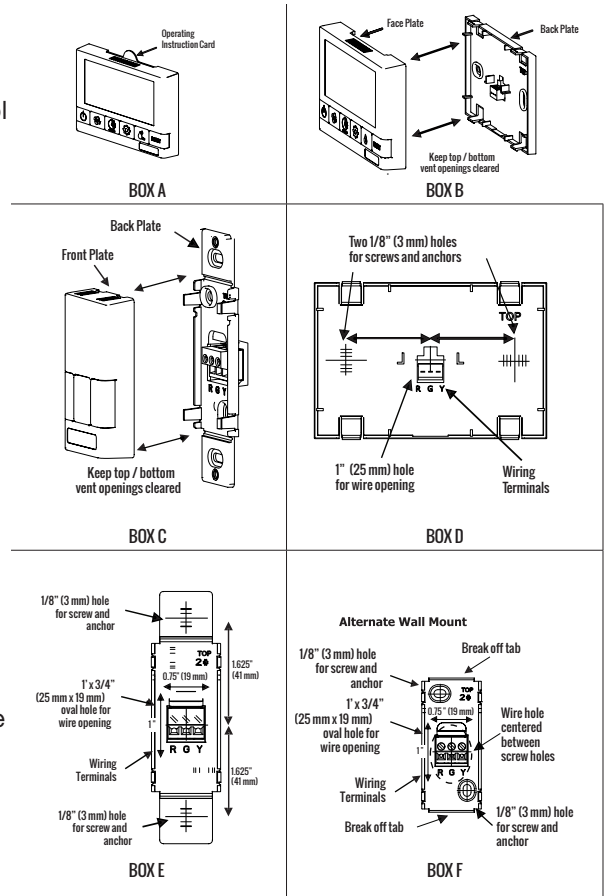

Figure 24. Installation of Controls
- For the GDXPL03 Deluxe Control, remove the operating instructions card from the top of the control (Figure 24, Box A).
- For the GDXPL03 Deluxe Control, place the back plate of the control in the desired location on the wall and pencil mark the wall with the right and left screw holes (Figure 24, Box D).
- For the GBC02, GBC03, or GBC04 Basic Controls, place the back plate of the control in the desired location on the wall and pencil mark the top and bottom screw holes (Figure 24, Boxes E or F). For mounting the control without a decorative plate, break off top and bottom tabs and refer to Figure 24, Box F for mounting.
- Remove the back plate from the wall and mark the center hole for the wires in the middle of the screw holes. Refer to Figure 24, Boxes D, E or F for dimensions.
- Drill (two) 1/8" (3 mm) holes for the screws and wall anchors (Figure 24, Boxes D, E or F). For the GDXPL03 Deluxe Control, drill a one inch hole in the center (Figure 24, Box D). For the GBC02, GBC03, GBC04 Basic Controls, cut in a 3/4" (19 mm) by 1" (25 mm) oval hole in the center (Figure 24, Boxes E or F).
- Connect red, green, and yellow to the wiring terminals located on the back plate (Figure 24, Boxes D, E or F).
- Attach the face plate to the back plate (Figure 24, Boxes B or C).
- For the GDXPL03 Deluxe Control, insert the instructions card into the control (Figure 24, Box A).